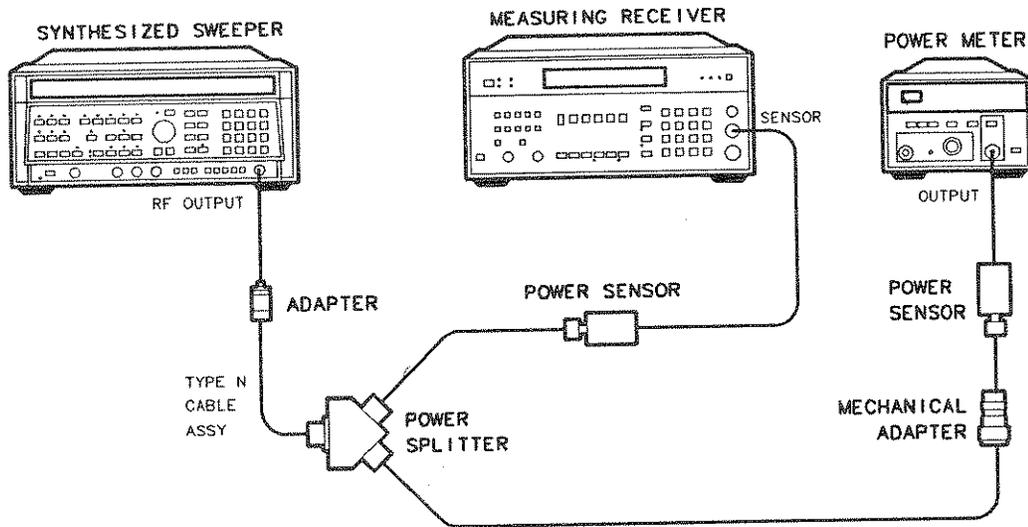

Figure 3-14. System Characterization Test Setup (Option 001)
4. Connect the equipment as shown in Figure 3-14.